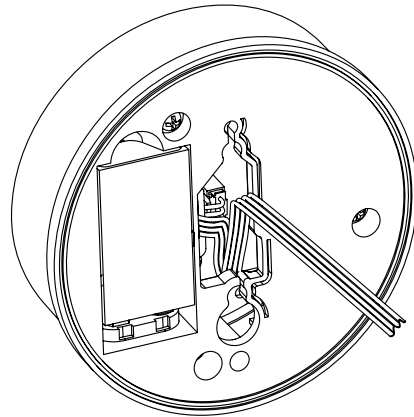

Figure 8
- e) Route the other end of the cable through the wire channel. Make sure the wire channel is rounded with no sharp edges that might damage the cable. (Figure 8)